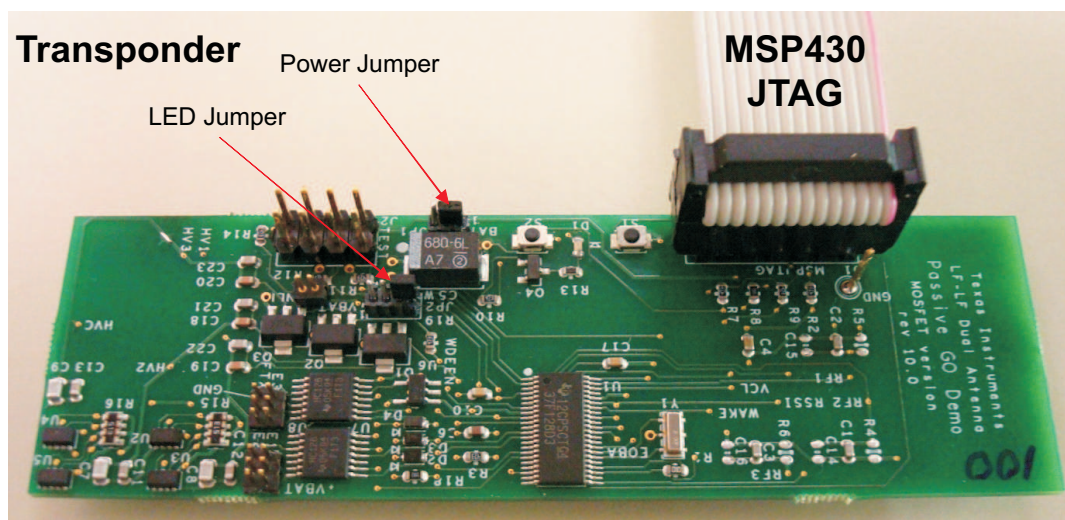

Figure 17. Transponder
4. Set the LED jumper to the ‘W’ position as shown in Figure 17. The LED will blink when the transponder receives a large-enough in-band signal to trigger the WAKE signal.
5. Set the power jumper on the transponder board to the BAT position as shown in Figure 17.